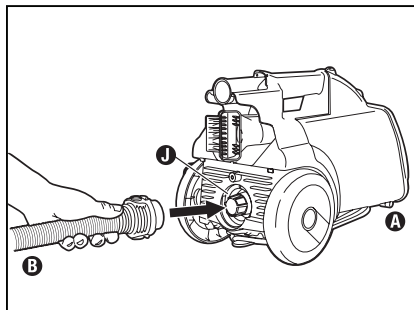

Fig. 9
Step 2: Detach hose (B) from front of canister (A) and attach to the blower port (A) on the back side of the canister (Fig. 9).